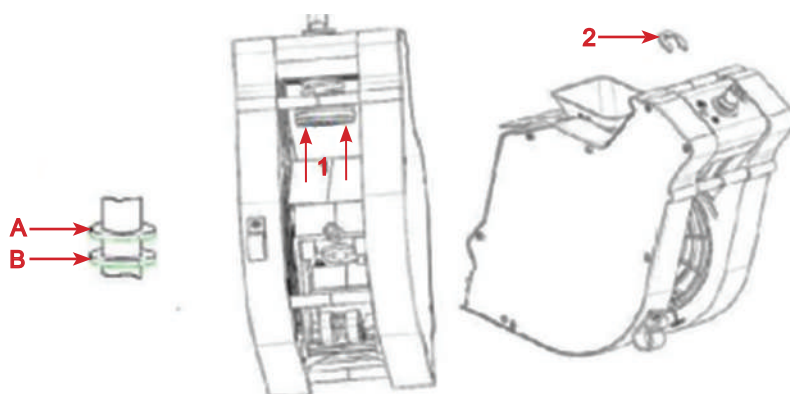

Fig.5.14
The espresso group allows you to regulate the space in the chamber for intake of ground coffee from the dosing mechanism. In case of setting the dosing mechanism into positions 5 or 6 it is necessary to increase the capacity of the chamber by setting the stopper ring in position B (see fig.5.14).
3. Push the piston (forcer) in the direction of the arrows 1 (see fig.5.14)